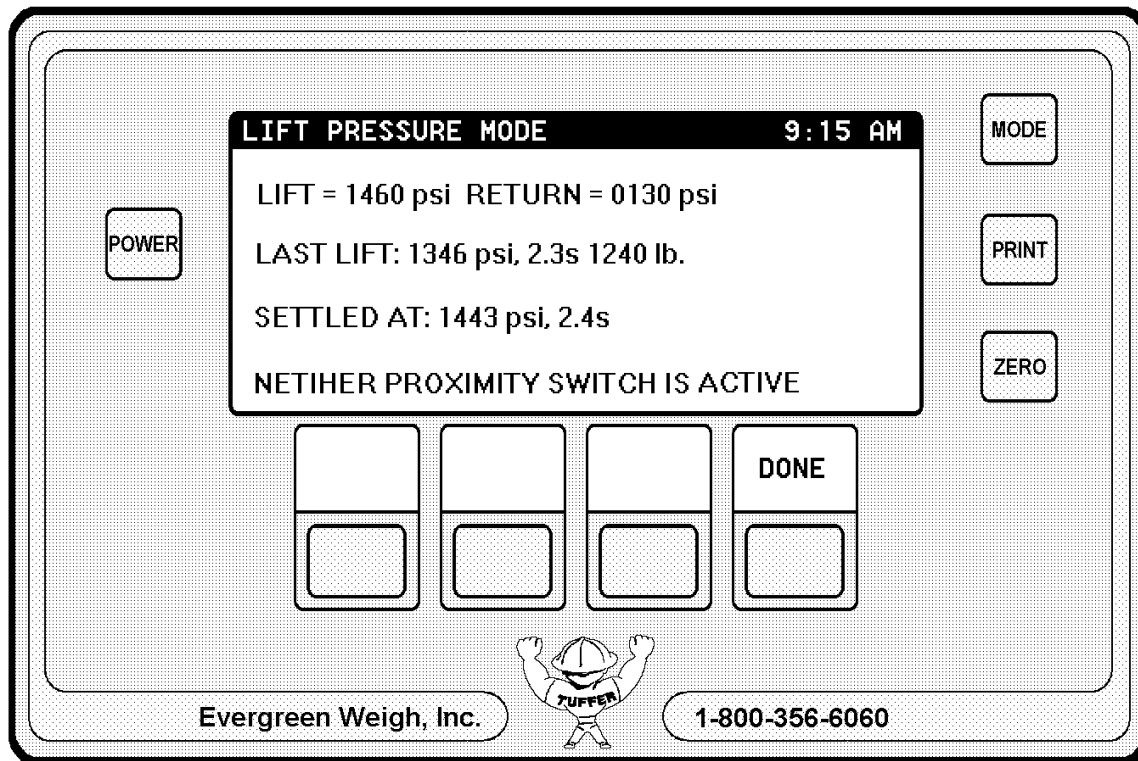

Figure 23, Lift Time in LIFT PRESSURE MODE
- ① Raise the boom. When the **target plate** passes in front of the **lower proximity switch**, the Tuffer will display, "THE LOWER SWITCH HAS BEEN ACTIVATED" on the bottom line of the display. When the **target plate** passes in front of the **upper proximity switch**, the Tuffer will display, "THE UPPER SWITCH HAS BEEN ACTIVATED". If not, the **proximity switches** may not be connected to the Tuffer or have been installed incorrectly.
- ② Press the **remote switch**. When the switch is depressed, the Tuffer will display, "THE REMOTE SWITCH IS PRESSED" on the third line of the display. If not, the **remote switch** may not be connected, or the **remote switch CABLE** may be damaged.
- ③ Raise the boom. If the pressure reading displayed on the first line of the display does not increase, the hydraulic connection may have been made to the wrong pressure line, or the hydraulic line may be clogged.
- ④ Raise the boom. If the pressure reading stays near zero, the hydraulic line may not be connected, or the line may be completely clogged.
- ⑤ Lower the boom until it is just above ground level. Raise the boom until the **target plate** is above the **upper proximity switch**. The second line of the display will show the time it took for the target plate to pass between the **proximity switches**, the average pressure in psi, and the **load weight** in the bucket. Refer to Figure 23.